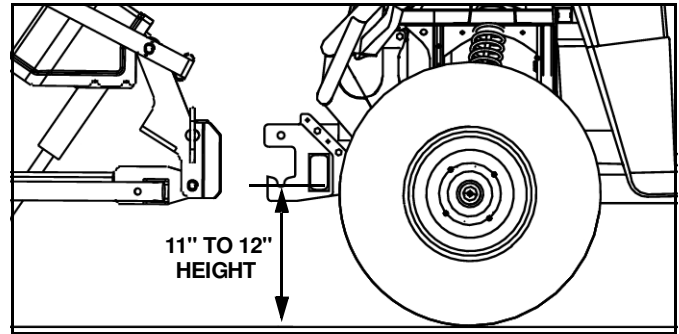

Figure 9
11. Position the UTV Mount (#1) on the machine. Align the Mount holes with the Upper Bracket (#3) to provide an 11" to 12" height between the lower pin slots and the ground. (See Figure 9.)